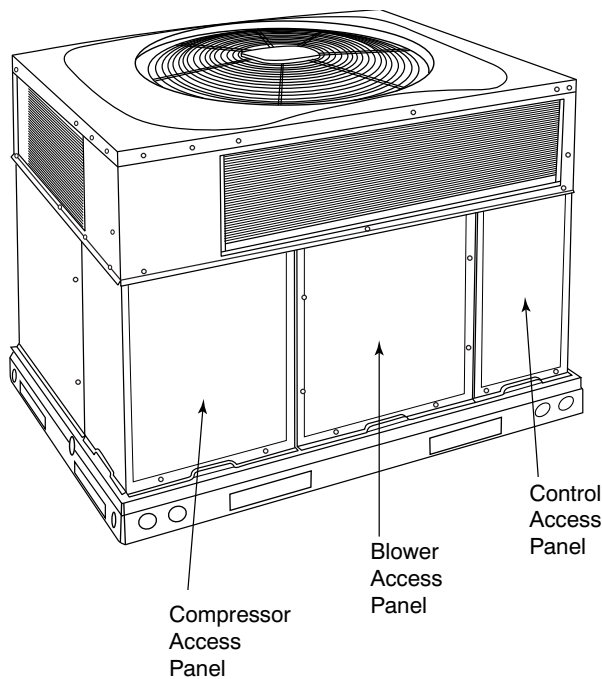

Fig. 26 – Unit Access Panels
- a. Remove blower access panel (see Fig. 26).
- g. Reinstall blower access panel (see Fig. 26).
Remove access panels (see Fig. 26 to locate all the electrical controls and wiring. Before working with or handling any electrical components, make sure that all capacitors are properly discharged to avoid possibility of sparking. Replace components only with parts specified by the manufacturer. Other parts may result in the ignition of refrigerant in the atmosphere from a leak. Check all electrical connections for tightness. Tighten all screw connections. If any discolored or burned connections are noticed, disassemble the connection, clean all the parts, restrip the wire end and reassemble the connection properly and securely.